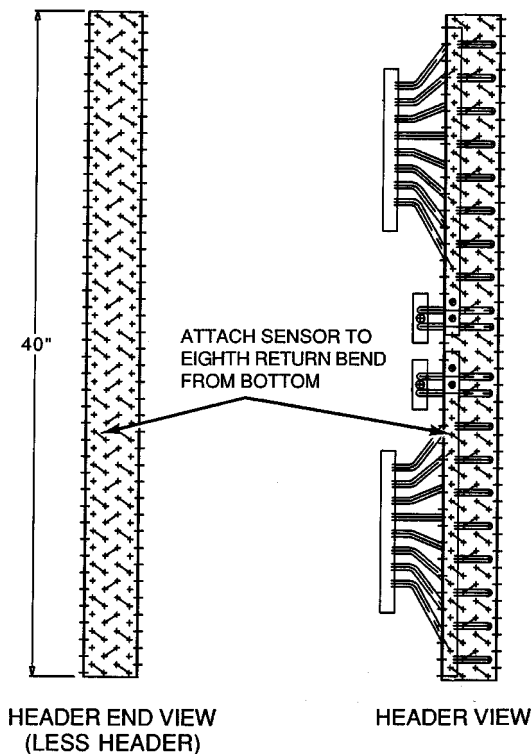

Fig. 5 — Sensor Location
Step 4 — Install and Wire Sensors — Install the sensor for thermistor input control in the proper location on the condenser coil. See Fig. 5. Connect sensor leads to the purple and gray control signal leads on the MMIII control. See Fig. 6 for wire routing.